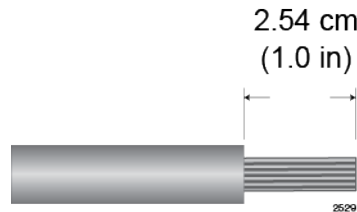

Figure 150. Stripping Solid or Stranded DC Power Wires
1. Prepare adequate lengths of two solid or stranded 8 AWG DC power wires by stripping them as shown in Figure 150.